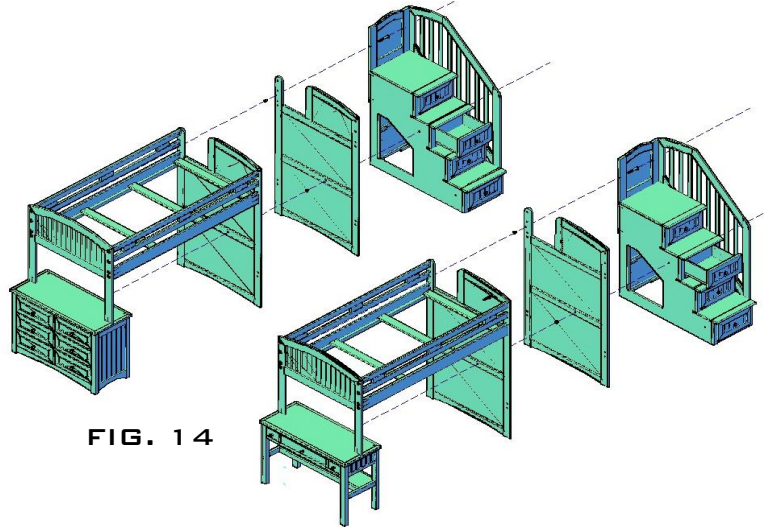

FIG. 14
- 3.- TAKE THE BACK FRAME (E), PLACE IT IN THE BACK OF STEP UNIT (A), ALIGNING THE BACK FRAME HOLES WITH THE METAL INSERTS, FASTENING WITH FOUR 1 1/2" PAN HEAD SCREWS (K), SEE FIG.14
- 4.- REMOVE FIRST, SECOND AND FOURTH DRAWERS FROM STEP UNIT (A), ALIGNING HANDRAIL HOLES (D) WITH STEP UNIT HOLES IN THE SAME SIDE DOOR, INSERTING ONE 35MM BOLT (G) FROM OUTSIDE ON OF HANDRAIL, ALIGNING HANDRAIL HOLE WITH BACK FRAME HOLE IN THE TOP, INSERTING ONE 100MM BOLT (F) THEN INSERT ONE CAP NUT (H) IN EACH BOLT, FASTEN USING ALLEN WRENCH (I, J), TIGHT ALL BOLTS UNTIL SECURE, SEE FIG.14
- 5.- TO ATTACH TO TWIN TOP BUNK BED ASSEMBLY WITH STEP BUNK BED ASSEMBLY, ALIGNMENT HOLES ON BOTH SIDES, INSERT ONE 35MM BOLT IN BOTTOM HOLE AND ONE 100MM BOLT IN TOP HOLE, AND INSERT ONE CAP NUT IN BOTH BOLTS AND FASTEN USING ALLEN WRENCH, SEE FIG.14